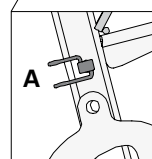

Fig. A7.30a
5. Remove linch pin (66.7) from Position A. (Fig. A7.30a)